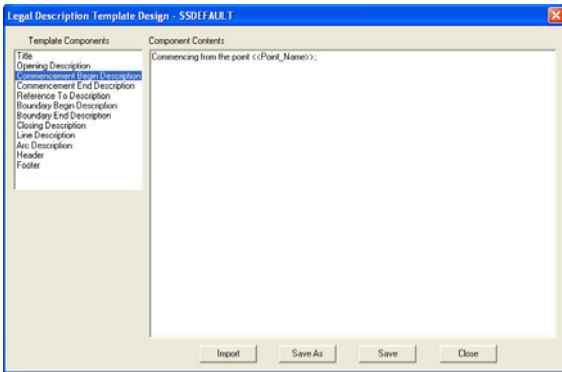

Figure 16-16. Component Content
The component content displays on the *Legal Description Template Design* dialog box (Figure 16-16 on page 16-26).
4. Enter the required information for the keywords. The keywords are identified by the double arrows << >>. In Figure 16-16, for example, enter the point name between the double arrows.